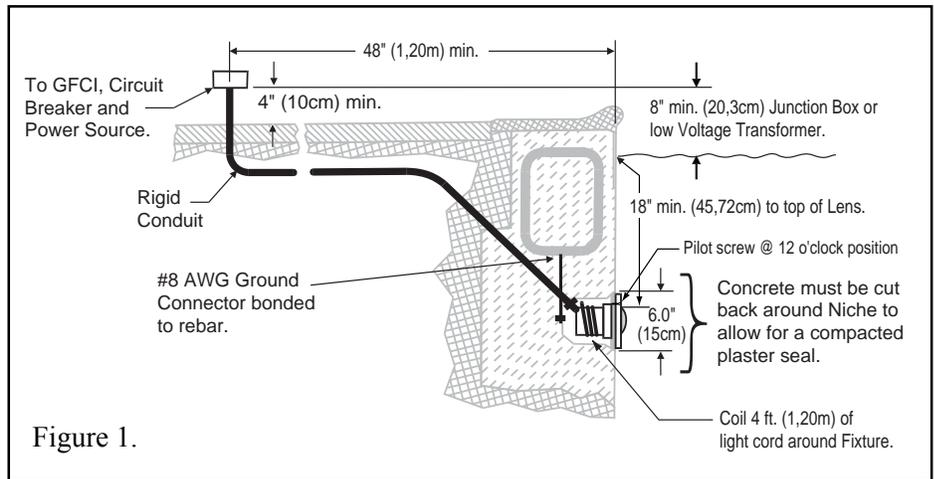

Figure 1.
A. Preparatory steps which must be completed by the electrician before the light fixture is installed; see Figure 1.
1. Feed cord through conduit to Junction Box, leaving at least 4 feet (1,20m) of cord at the light fixture to coil around the light; see Figure 1. This 4 feet (1,20m) of cord around the light allows the light to be serviced after the pool is filled with water.
5. Leave at least 4 feet (1,20m) of cord to coil around the light fixture; see Figure 1. This 4 feet (1,20m) of cord coiled around the light allows the light to be serviced after the pool is filled with water.